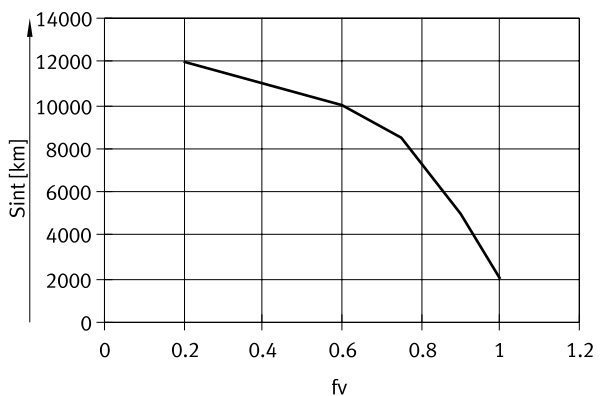

Fig. 11
- Read off lube interval S_{int} → Fig.11.